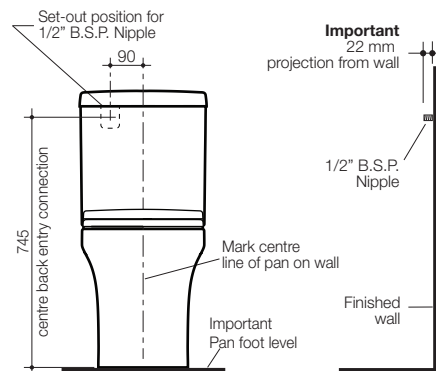

Fig. 1
- 1- Mark centre line of the pan on finished wall which is to be used as a guide when connecting the pan. Refer to Fig. 1.